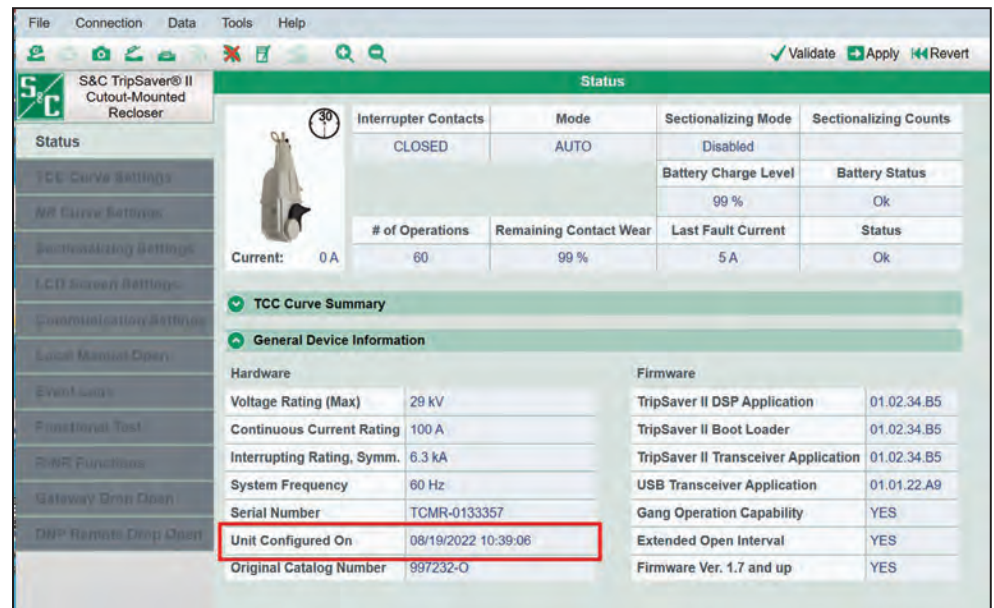

Figure 125. The Unit Configured On field.
- STEP 5.** Make a change to the device configuration. Any change will prompt the device to initialize the configuration date in the register. Validate the change according to the directions in the “Validate” section on page 32 and then click on the **Apply** button. The **Unit Configured On** field should now show the correct information. See Figure 125.